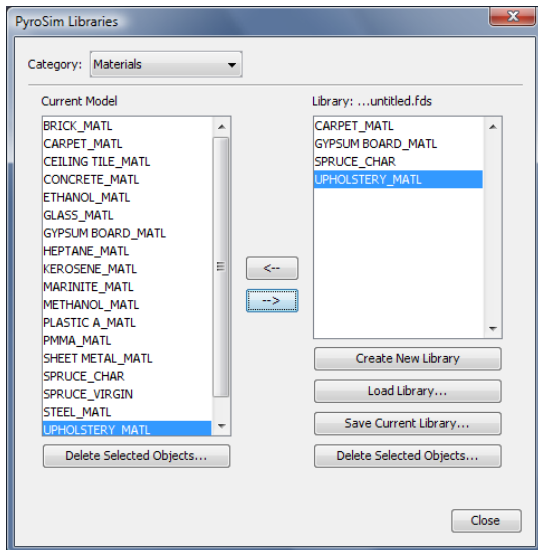

Figure 19.1. Creating a library of materials
2. Select the **Category** that you want to manage and move selected items from the **Current Model** into the **Library**, Figure 19.1.